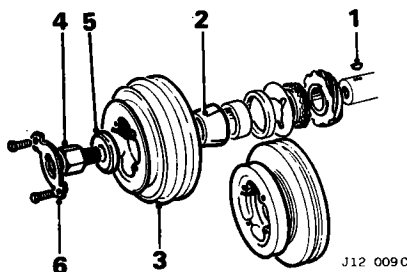

Fig. 74
Fit the Woodruff key (1, Fig. 74) to the forward slot in the crankshaft and fit the damper cone (2, Fig. 74).
Fit the Woodruff key in the damper cone and fit the torsional damper (3, Fig. 74). Secure with the large bolt (4, Fig. 74) and plain washer (5, Fig. 74).
Fit the crankshaft pulley(s) and secure using four setscrews and lockplate (6, Fig. 74).